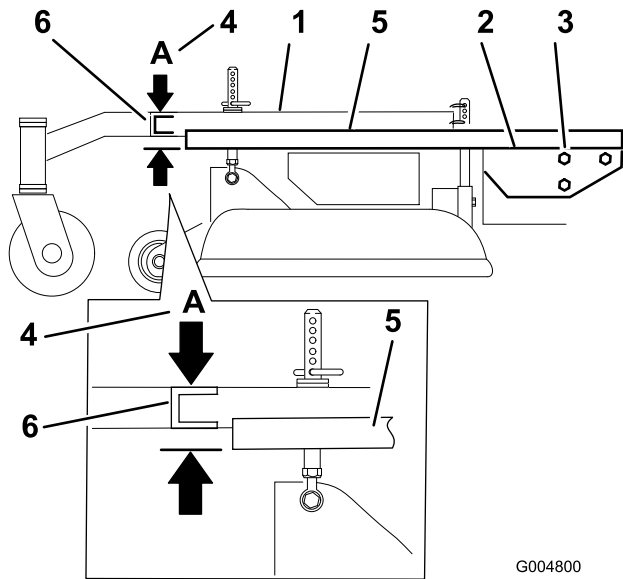

Figure 52
- Place a long straight edge on top of the engine deck as shown in Figure 52.
4. At the carrier frame cross channel, measure the height at location **A** (Figure 52). This measurement must be 1-5/16 inch (33 mm), plus or minus a 1/4 inch (6 mm).
6. Loosen the carrier frame mounting bolts on both sides of the machine (Figure 52).
7. Align the carrier frame and engine deck to match 1-5/16 inch (33 mm), plus or minus a 1/4 inch (6 mm) at location **A** (Figure 52).